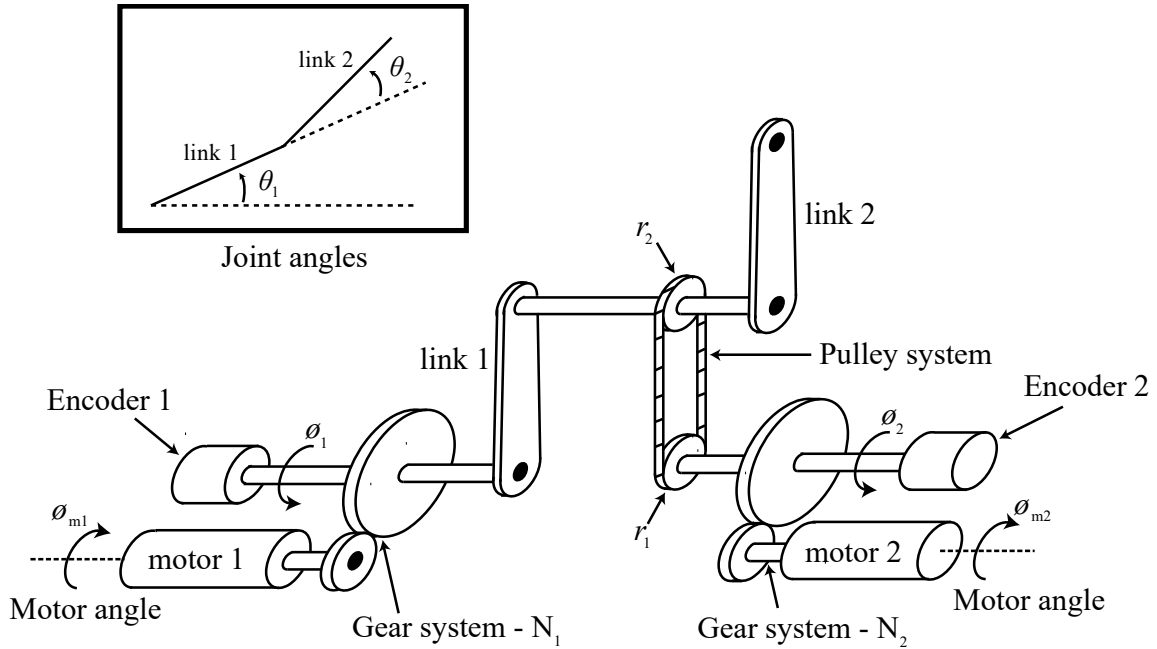

Figure 1. Schematic for the Planar 2-DOF Quanser Robot.
1. In this problem, we consider the drive train kinematics of the planar 2-DOF Quanser robot from PS#1 and 2. Figure 1 shows a diagram of the robot, where θ_i are joint angles, and ϕ_{mi} are motor angles. Note that the drive train for this robot includes a gear train on both joints, as well as a belt/pulley system on joint 2. In this case it is also helpful to define an intermediate set of angles, ϕ_i , which are located between the gear and pulley systems, and happen to coincide with the encoder placement. N_i are the gear ratios, such that $\dot{\phi}_{mi} = N_i \dot{\phi}_i$, and r_i are the radii of the pulleys.